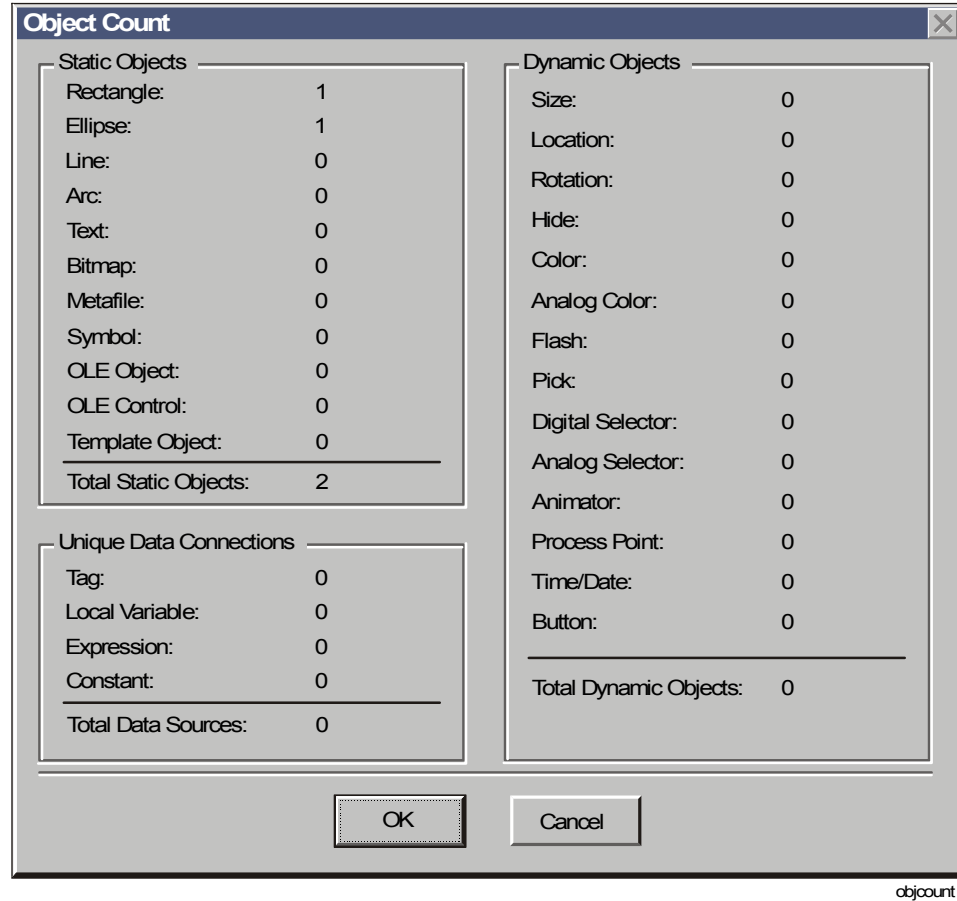

Figure 3-11: Object Count Dialog Box
1. From the View menu, select Object Count. The Object Count dialog box appears (Figure 3-11).